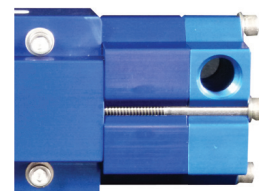

Figure 11
11. Place bolts into bolt slot at each end and tighten, DO NOT tighten completely at this time. Move plunger back and forth two times and then tighten bolts to 14 in/lbs. of torque. Figure 11 shows installing bolts at each end.